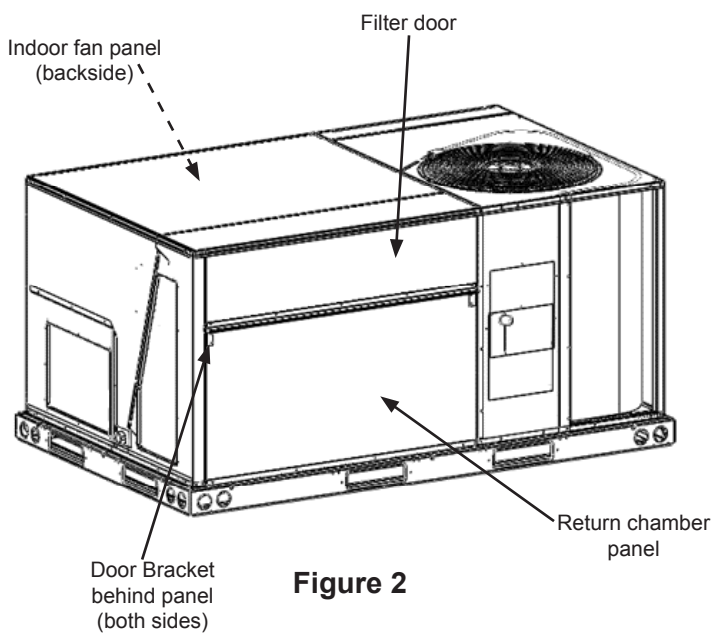
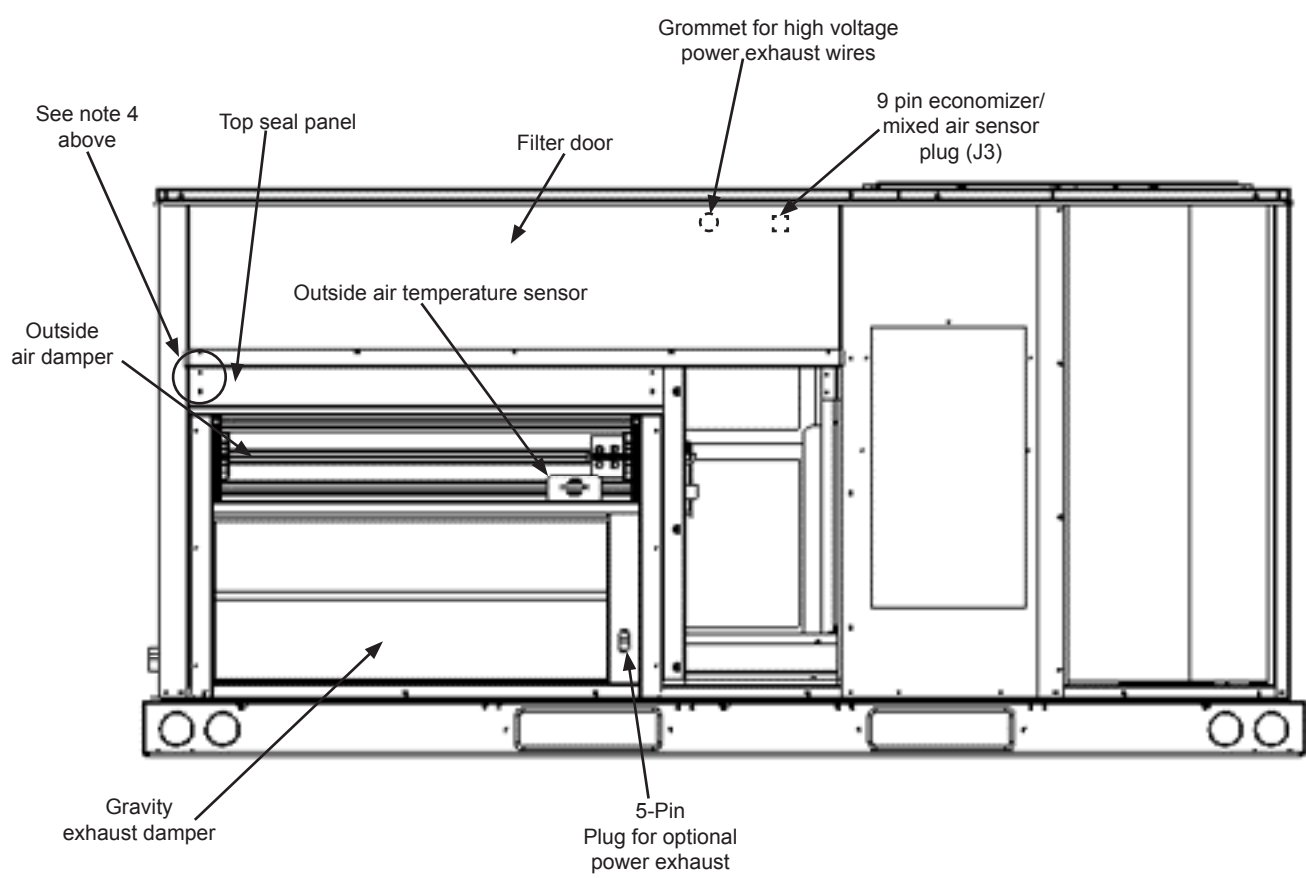

Figure 2
Figure 4
4. Partially back-out the 2 screws on the left side of the economizer top seal. Insert these 2 screws into the door bracket (see figures 2 and 4) holes and tighten. Place screws in bottom flange as shown in figure 4.
1. Locate 9-pin J3 economizer jack harness seated in upper right panel inside filter compartment. Disconnect P3 jumper plug from J3 and retain jumper plug for future troubleshooting. Connect 9-pin P4 economizer plug from economizer control module harness to J3 economizer jack. Secure P4 harness with push in wire tie from parts bag and inset it into the 1/4" hole on top of filter rack. Refer to figure 4 and 5.